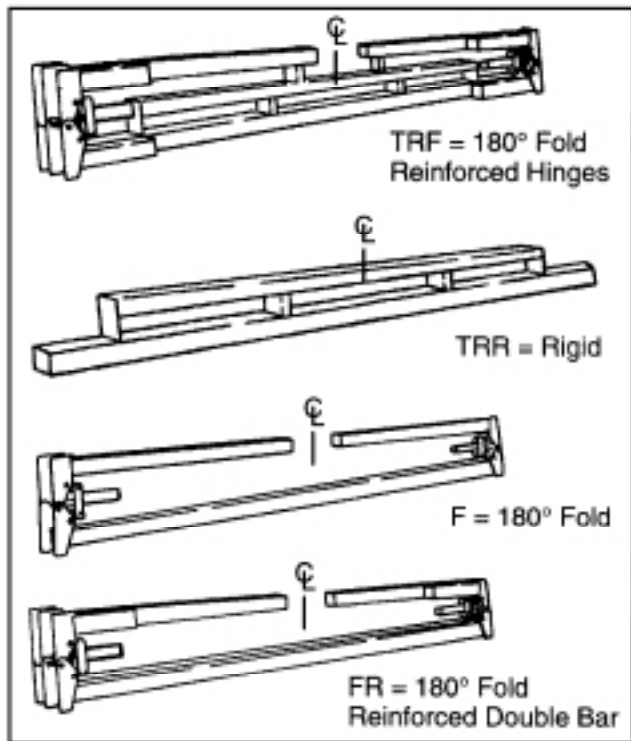

Figure 2 Toolbar Identification
2. Identify toolbar type according to Figure 2. Locate center point and mark for reference during assembly.